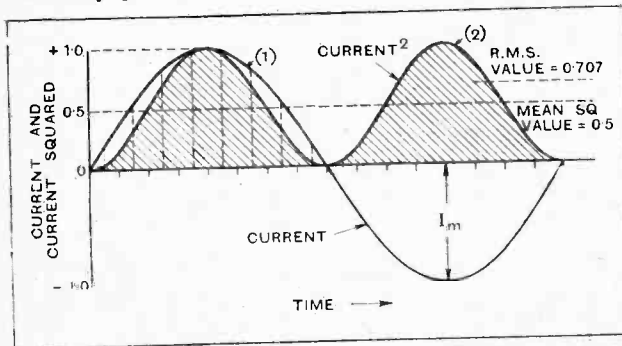

Fig. 4.—Diagram for showing that the R.M.S. value of a sine wave is 0.707 of the maximum value.
But the amplitude is not the useful or effective value of the current, and it behoves us to find what relationship exists between the effective value and the maximum value. To do this consider a sine wave of current which builds up to a maximum value of 1 ampere in each direction. Such a wave has been drawn to a suitable scale in Fig. 4, and is shown by curve (1). If we now divide the base line up into, say, 20 equal parts and measure the vertical distance from the centre of each part to the curve itself, we get the values of the current corresponding to the various instants de-